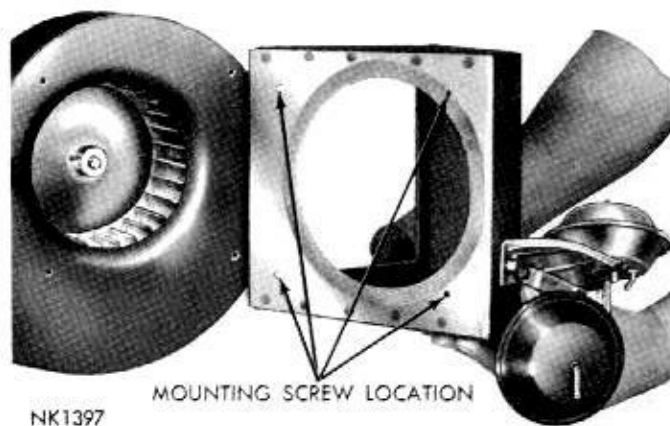
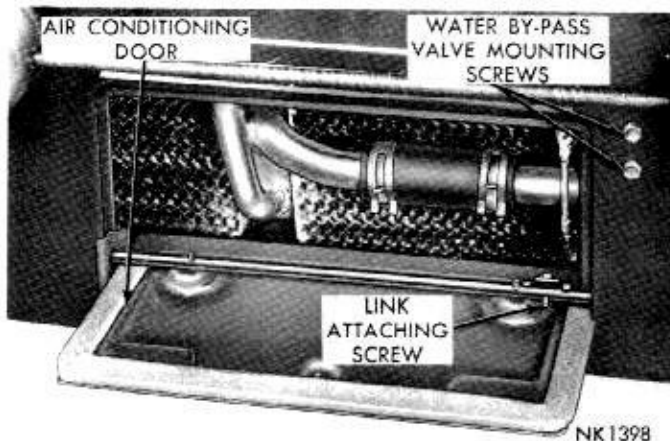

Fig. 12—Fresh Air-Recirculating Door Housing Removal and Installation
Fig. 13—Water By-pass Valve Link Attaching Screw
(3) Remove fresh air-recirculating air inlet hose.
(4) Disconnect floor air actuator rod from linkage.
(5) Disconnect actuator vacuum hoses and remove fresh air-recirculating door housing assembly (Fig. 12).
(6) Remove defroster hoses, disconnect electrical connections from resistor block.
(7) Remove the two screws attaching the water by-pass valve to heater cover and remove the operating link attaching screw (Fig. 13).